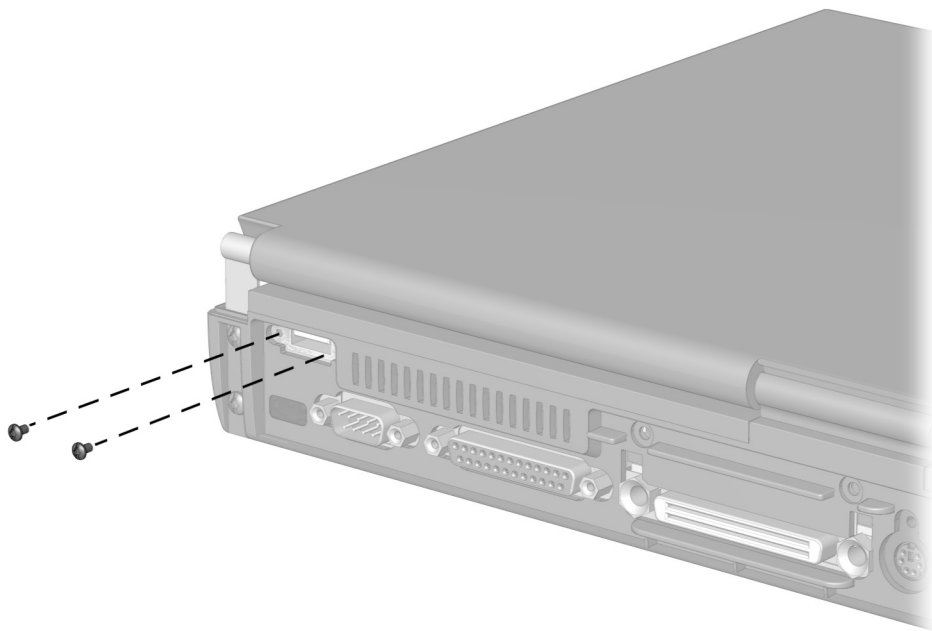

Figure 5-45. Removing the USB Board Screws
7. Remove the two screws that secure the USB assembly to the I/O bracket (Figure 5-45).